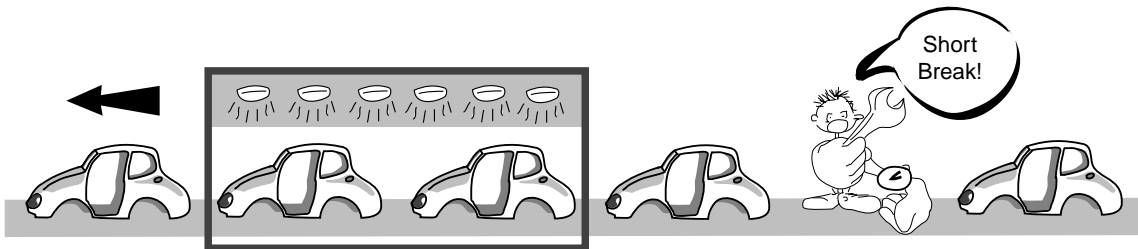

Figure 2-12: Peak Hold Example
In a car plant, body parts are moved on a conveyor belt through a hardening oven to harden the metallic paint. Normally a new body passes through every two minutes. The temperature of the oven must be kept relatively constant, if possible, even if no new parts move into the oven for short periods (for breaks or for short technical stoppages). So practically speaking, we have the following case (Figure 2-12):
In the example in Figure 2-12: No new car bodies enter.
In the example in Figure 2-12: the conveyor belt temperature is below the bottom of the temperature range. For example, 475°C for FA1A.
- Set HOLD TRIGGER TEMPERATURE high enough that all "irrelevant" input values are suppressed. In the example in Figure 2-12 the bodywork parts have a higher temperature than the moving conveyor belt. HOLD TRIGGER TEMPERATURE was set above the conveyor belt temperature (2-way command "C").